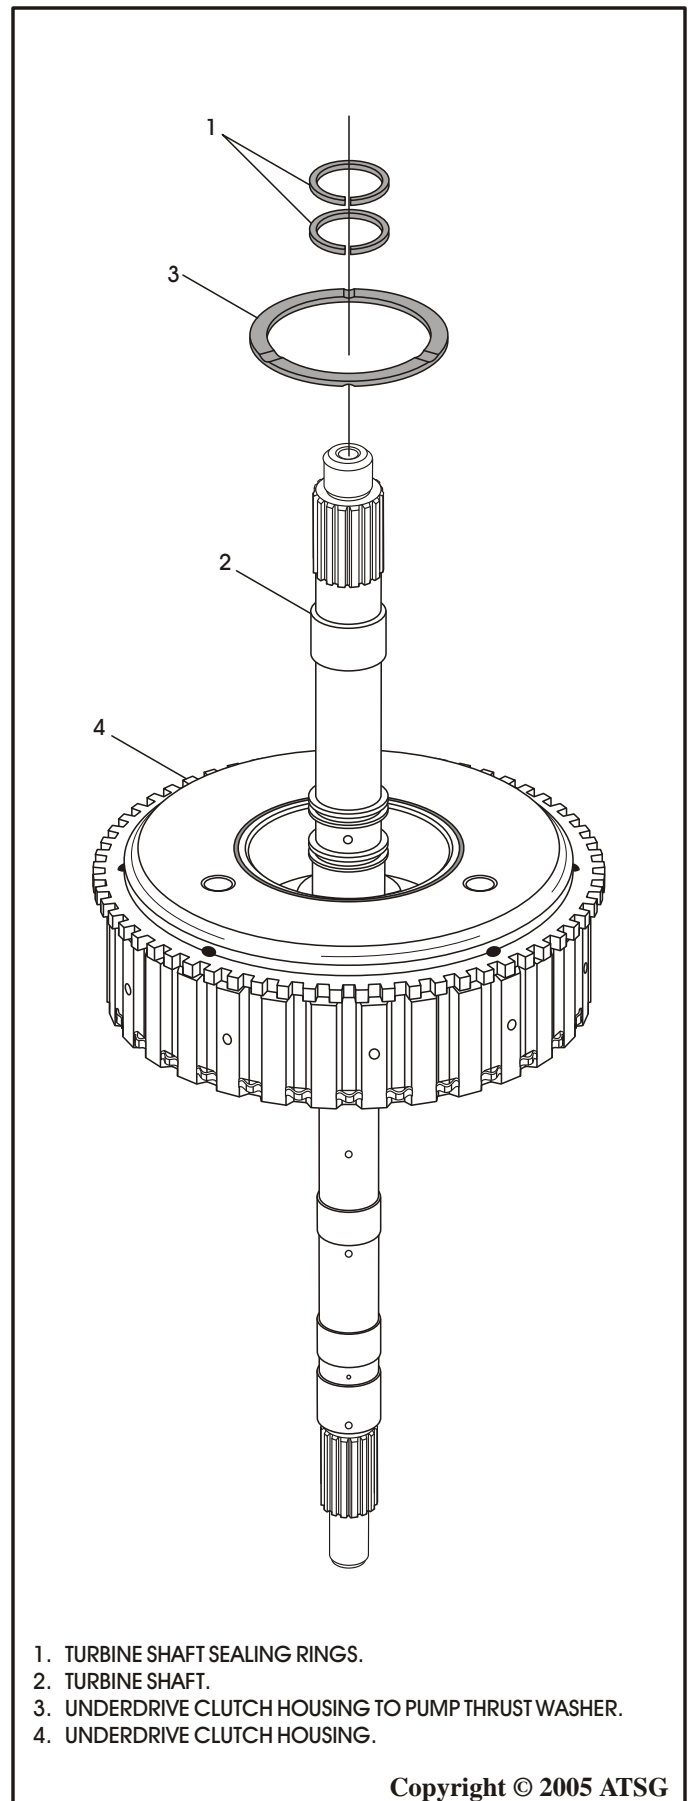

Figure 120
20. Install the number 1 thrust washer, as shown in Figure 120, and retain with Trans-Jel®.
21. Install two new turbine shaft sealing rings, as shown in Figure 120, and ensure rotation.